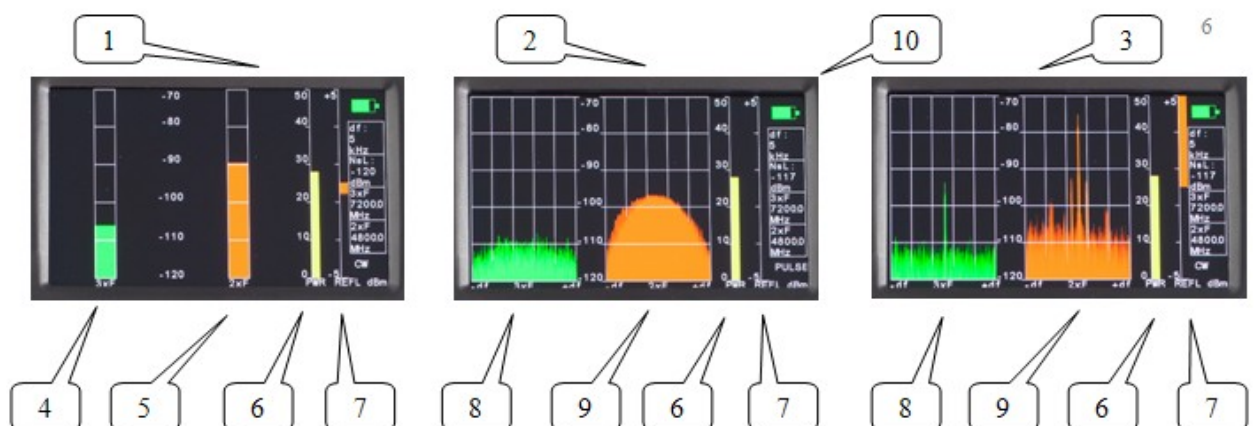

Figure 3, where
**4.3.** Replaceable antenna module with spectrum analyzer (modification //08c and //24c) provides indication on a graphic display. Figure 3 shows possible representation options of transmitter power level, levels of the received signals of second and third harmonics, spectrum of the received signals of second and third harmonics, level of the reflected signal of the first harmonic.